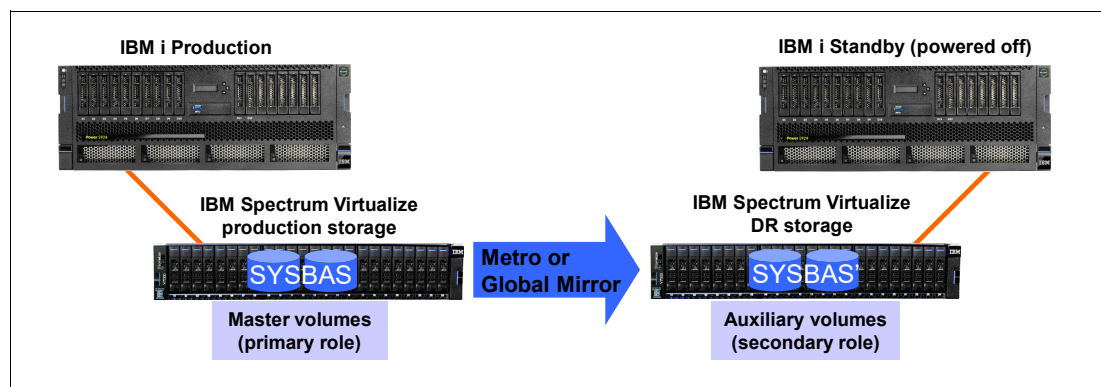

Figure A-11 IBM i full system replication with IBM Spectrum Virtualize
Full system replication is used for disaster recovery (DR) purposes where an IBM i standby server is used at the DR site as shown in Figure A-11. When a planned or unplanned outage occurs on the IBM i production server, the IBM i standby server can be started (IPLed) from the replicated SYSBAS volumes after they have been switched on IBM Spectrum Virtualize to a primary role to become accessible for the IBM i standby host.